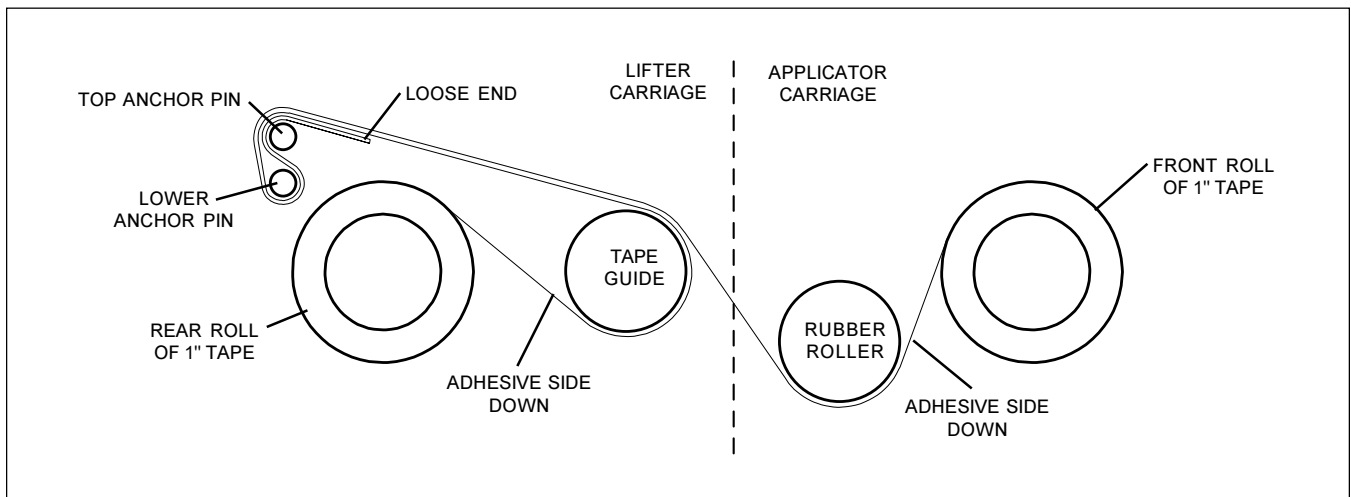

Figure 5 - Threading Diagram
- b. Referring to Figure 5, pull some tape from the REAR ROLL. Bring it under and around the TAPE GUIDE and lay it back over the REAR ROLL from which it came.
- d. Pull the mated tapes over the TAPE GUIDE, cut off the excess and make a large loop. Reach over the TOP ANCHOR PIN, hook the loop on the LOWER ANCHOR PIN, and remove slack by pulling on the loose end. See Figure 5.